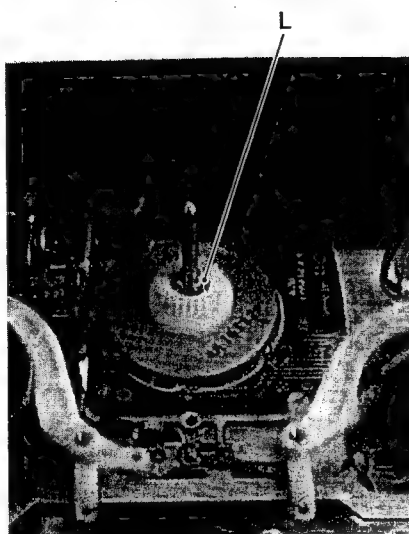

Fig. 2-7-52
1. Remove the supply reel disk (see items 1 to 9 of the subsection "2.6.7 Sub-brake replacement").
3. Remove E-washer L (see Fig. 2-7-52).